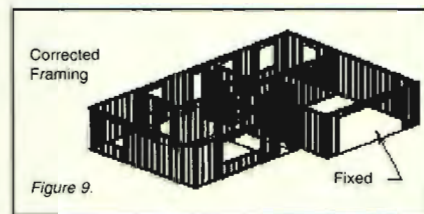

Figure 9.
4. Once the corrections are made, Select Build again. The program first disassembles the existing framing, looks for any changes to the outlines and openings, then rebuilds it. (Figure 9)